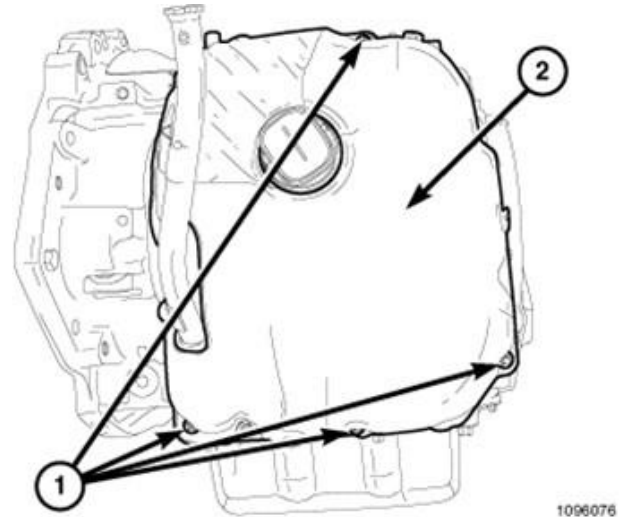

Figure 11 – Sound Dampener Cover
18. If equipped, remove the fasteners (1) and the front sound dampener cover (2) (Figure 11).